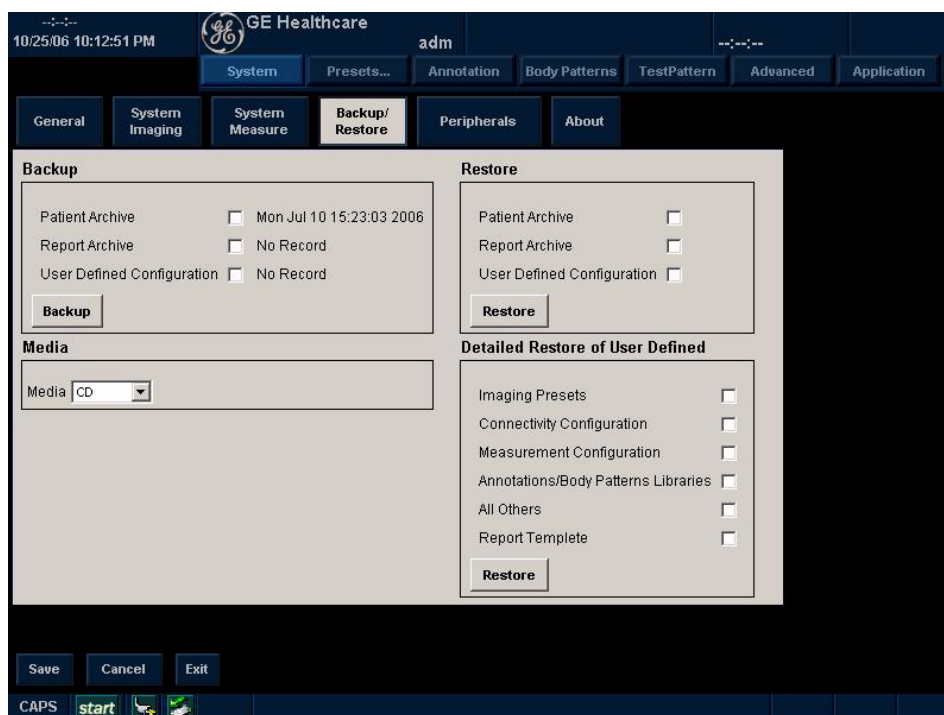

Figure 4-4 Backup Sheet
- 2.) Access to the Utility Menu, and select Backup/Restore. The Restore sheet will be shown on the LCD display. (see Figure 4-4 on page 4-5)